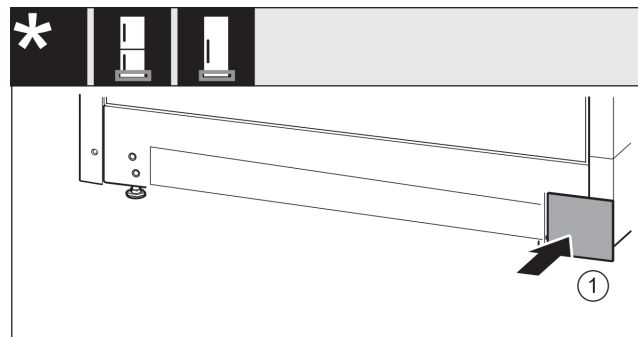

Fig. 38
- ▶ Re-attach the cover Fig. 38 (1) on the other side.